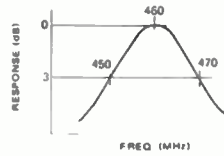

FIGURE 9-1
Step 3: Adjust TC1, TC2 and TC3 for maximum output and best curve symmetry as shown in Figure 9-1.